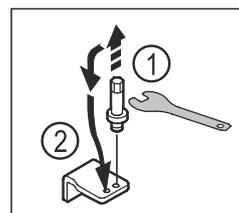

Fig. 20
- ▶ Unscrew the bolt of the lower swap bearing block with an Allen key AF5. Fig. 20 (1)
- ▶ Insert the bolt on the opposite side. Fig. 20 (2)